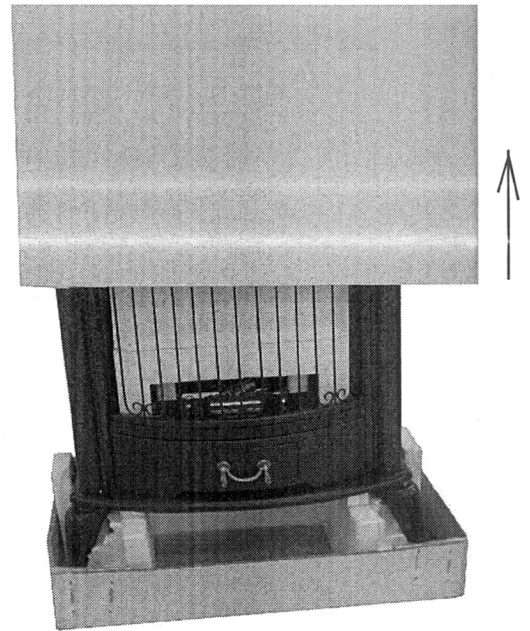

Figure 1
1. Remove packing tape and adhesive tape. Take the upper carton and remove it. Carefully carry out the heater from the lower carton base (see Figure 1).